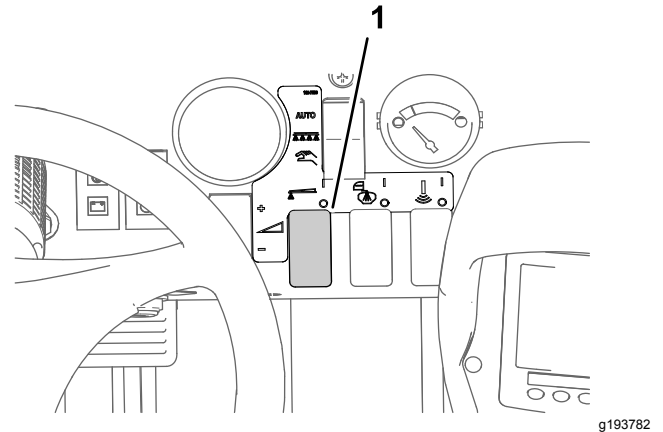

Figure 33
8. Use the application-rate switch to achieve the desired spray pressure as indicated in the nozzle-selection guide provided with the sprayer (Figure 33).